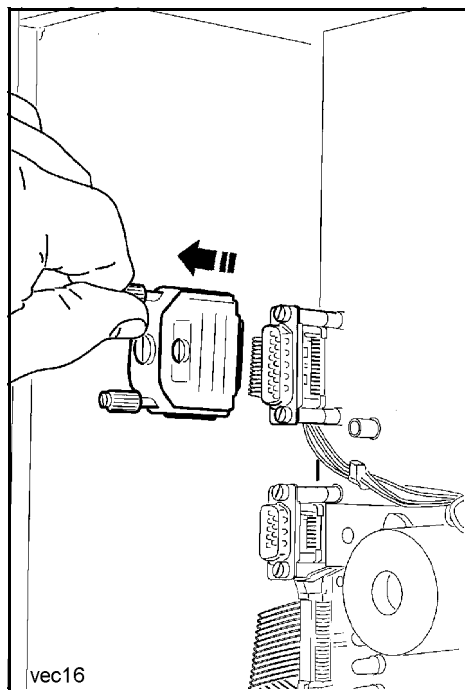

Fig. 113 Removing the teach key
- Remove the teach key (**Fig. 113**).